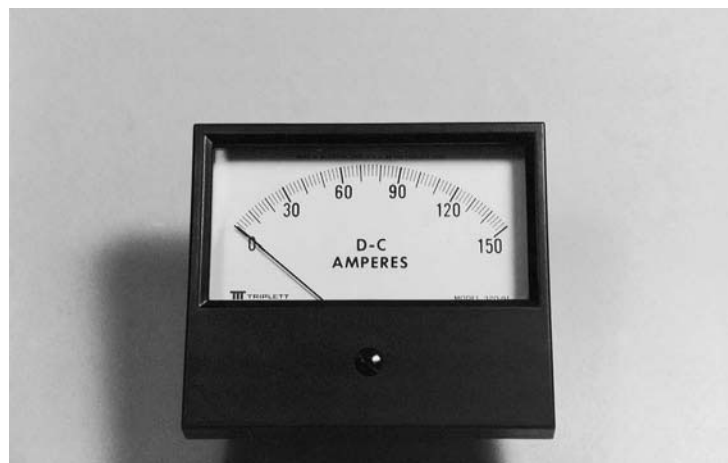

Figure 1-15 In-line ammeter.
0.1 Ω . If this meter is connected in parallel with the power supply, the resistance of the ammeter is the only thing to limit the amount of current flow in the circuit. Assume that an ammeter with a resistance of 0.1 Ω is connected across a 240-volt AC line. The current flow in this circuit would be 2,400 amps ($240 / 0.1 = 2,400$). The blinding flash of light would be followed by the destruction of the ammeter. Ammeters connected directly into the circuit as shown in Figure 1-14 are referred to as in-line ammeters. Figure 1-15 shows an ammeter of this type.